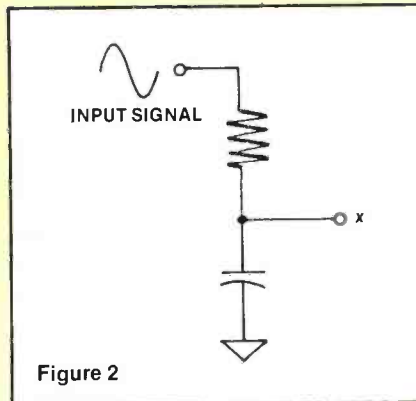

Figure 2
4. In the circuit of Figure 2, the voltage at point *x* will be
As shown by the Figure 2 block diagram, most of the low-voltage supplies are produced by diode rectification of horizontal-sweep power. The +317V output of the voltage doubler (produced by rectification of ac-line power) supplies appropriate voltages for the regulator-circuit and its horizontal-drive stages, and +10V for the horizontal oscillator during start-up.